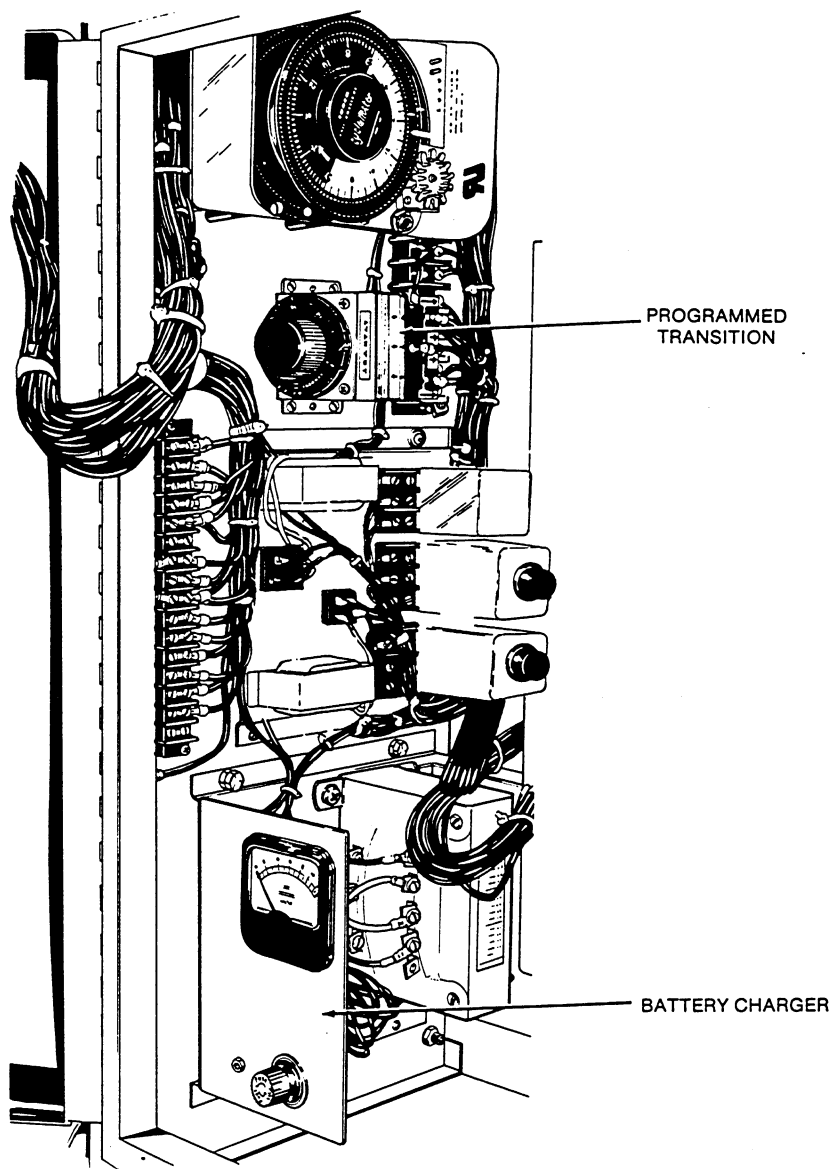

FIGURE 13. OT OPTIONS WITHIN CABINET
Programmed transition is an optional feature of Onan Series OT transfer switches, see Figure 13. Programmed transition is the capability of the transfer switch to assume a mid-transition position, for an adjustable interval of time, when the load is neither connected to the Generator Set #1 power source nor to the Generator Set #2 power source. This feature allows residual voltages in a motor load to decay to an acceptable level before transition is completed. The length of time that the transfer switch is in the mid-position can be adjusted from 0.5 to 5 seconds. The proper adjustment is a function of the motor and its connected load.
**Battery Charger:** An OT automatic transfer switch can be equipped with either a float battery charger or a trickle battery charger. See Figure 13. Both can be used with lead-acid or nickel-cadmium batteries. The transfer switch automatically connects the charger to the generator set that is not running.